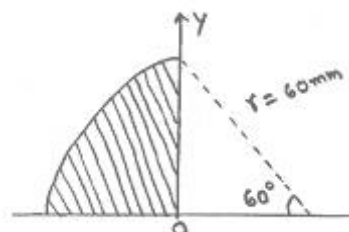

Figure 8b
- (b) Determine the centroid of the shaded area, which is bounded by straight lines and a circular arc as shown in figure 8b.